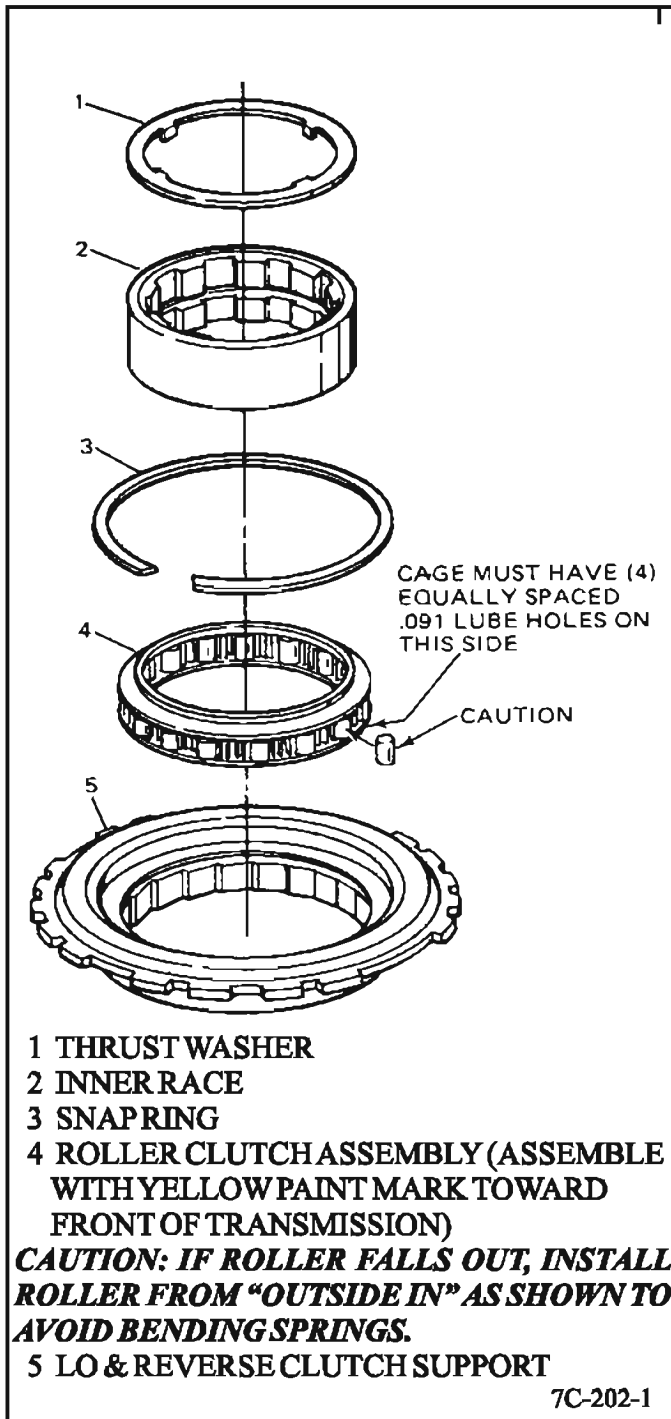

Figure 72 Low & Reverse Clutch Support and Overrun Roller Clutch Assembly
Low and Reverse Roller Clutch (Refer to Figure 72.)
4. Install low and reverse clutch to sun gear drive shell thrust washer. *See Figure 72.*